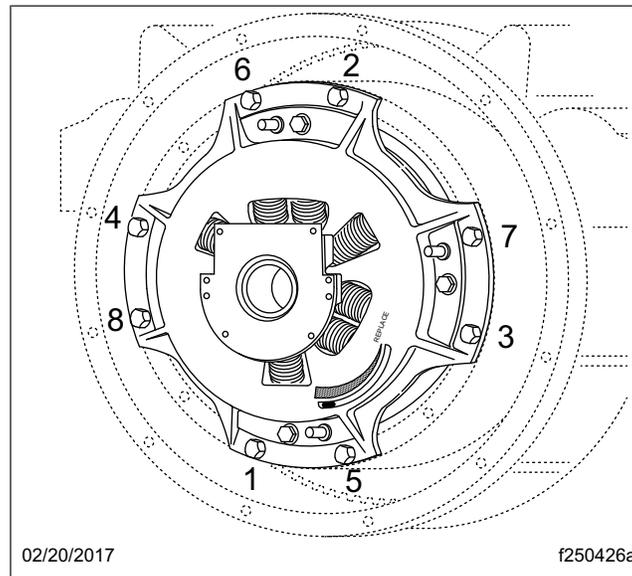

Fig. 37, Tightening Sequence
7. Progressively tighten the mounting bolts in a crisscross pattern starting with the lower left bolt. Torque to 45 lbf-ft (61 N·m). See **Fig. 37**.